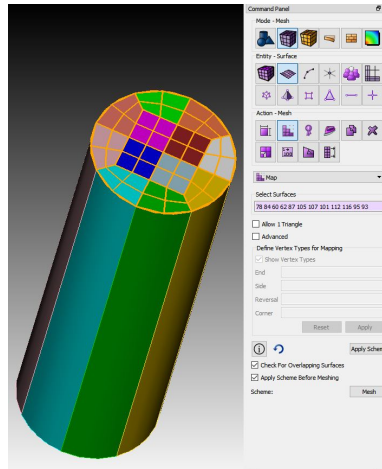

Figure 19: Surface scheme map
- (3) Surface scheme map : mesh surface. (Figure.19)